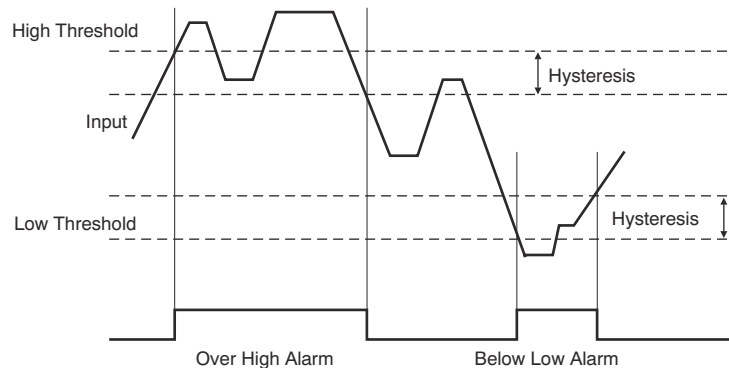

图 7-16. Hysteresis
The device continuously monitors the analog input channels and temperatures. If any alarms are out of range and the alarm is enabled, the alarm bit is set (1). However, the alarm condition is cleared only when the conversion result returns to a value of at least *hys* below the value of the high threshold register, or *hys* above the value of low threshold register. The hysteresis registers store the value for each analog input (CH0, CH1, CH2, and CH3) and temperature (D1, D2, and LT). *hys* is the value of hysteresis that is programmable: 0 LSB to 127 LSB for analog inputs, and 0°C to +31°C for temperatures. For the THERM-ALR bit, the hysteresis is fixed at 8°C. The hysteresis behavior is shown in 图 7-16.